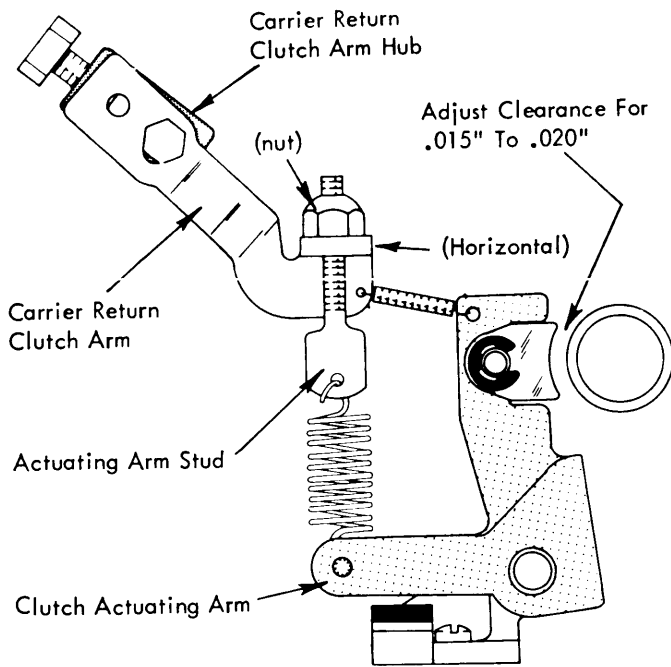

FIGURE 136. Carrier Return Actuating Arm Adjustment
6. Carrier Return Clutch Arm - Adjust the clutch arm on the carrier return clutch arm hub so that the formed lug which mounts the actuating arm stud will be horizontal when the machine is at rest (Fig. 136).
7. Shoe Clearance - The nylon shoe on the clutch actuating arm should clear the carrier return clutch spring by .015" to .020" when the machine is at rest (Fig. 136). Adjust the nut on the actuating arm stud to obtain the proper clearance.